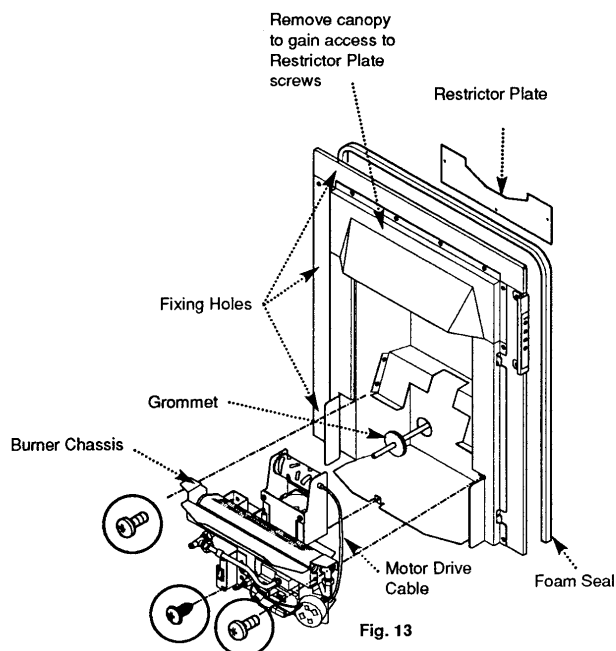

Fig. 13
1. **If the fire is to be fitted in a flue box or in a 5 inch lined flue, remove the restrictor plate** (Fig. 13). To remove the restrictor plate, first remove the canopy to gain access to the screws. Remove restrictor plate and replace the canopy taking care not to damage any painted surfaces.
a) With the fire pushed onto the fireplace opening in the correct level position, mark the four holes in the wall through the fixing holes in the firefront. Remove the fire, drill and plug the wall (Fig. 13).
5. Take the foam seal from the kit and remove its backing strip. Fit it to the rear of the fire frame ensuring the seal is applied in the correct position as to allow no spillage of products through the screw securing holes (Fig. 13).
7. Undo the three screws retaining the burner chassis to the combustion box sides and base. Carefully withdraw the burner chassis from the fire taking care not to catch the motor drive cable in the fire and place to one side (Fig. 13). It will also be necessary to unplug the switch from the top right hand side of the fire and remove the cable from the clips.